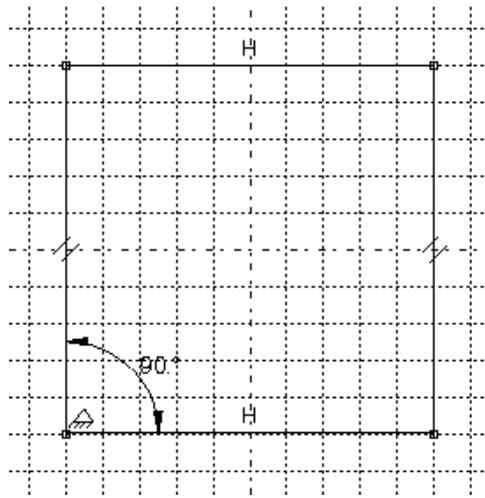

Figure 8-3 Dimension the angle at the lower left corner of the plate.
4. From the Sketcher toolbox, select the dimension tool  and dimension the angle at the lower left corner of the plate as shown in Figure 8-3.